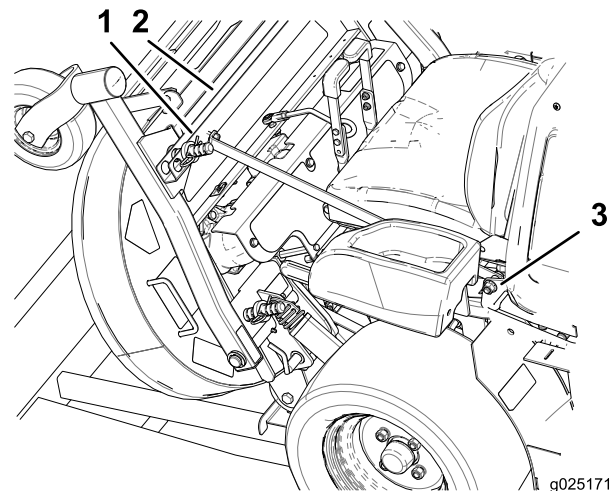

Figure 5
12. While supporting the mower deck, remove and discard the 2 side struts, mounting brackets, and their hardware on both sides of the seat (Figure 5).
13. Remove and discard the strut located between the front deck-support pins (Figure 5).